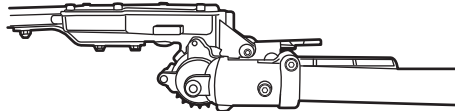

Fig. 10b
2. Insert the shaft and secure the connection with the bolts by using the hex key (E5). (See Fig. 10b)